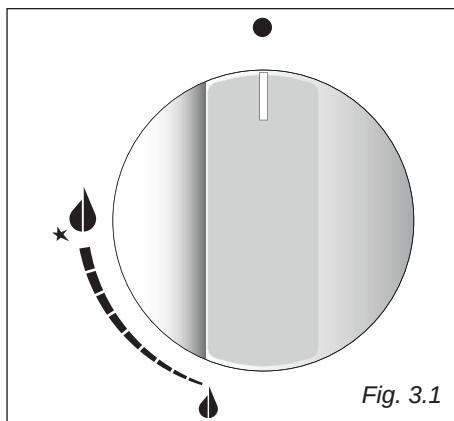
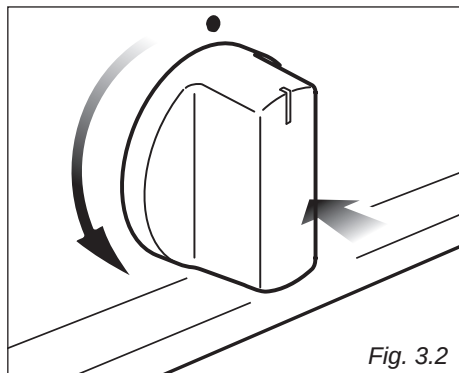

Fig. 3.1
Fig. 3.2
- Unhook the terminal board cover by inserting a screwdriver into the two hooks "A" (fig. 3.2).
Gas flow to the burners is adjusted by turning the knobs (illustrated in figs. 3.1) which control the safety valves.
1. Press in the corresponding knob and turn counter-clockwise (fig. 3.2) to the full flame position marked by the ★ symbol (fig. 3.1); hold the knob in until the flame has been lit.